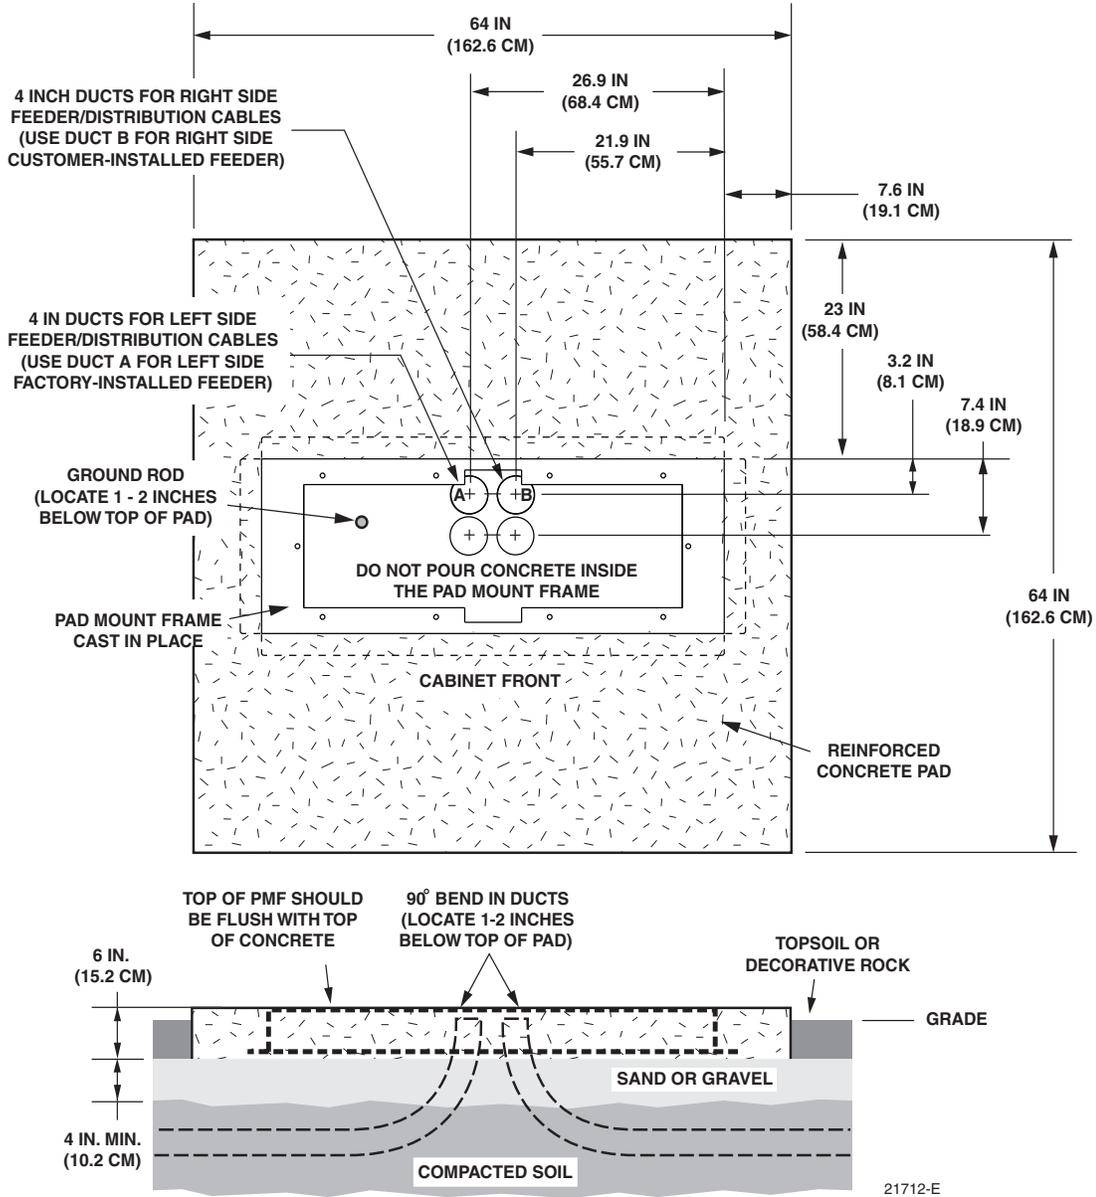

Figure 9. Constructing the Concrete Pad for the 864 Termination FDH 3000 Pedestal-Mount Cabinet
Prepare a base for the concrete pad that meets all local code requirements. The base must have a footing of 4 to 6 inches (10.2 to 15.2 cm) of sand or gravel (per local practice) on firmly compacted soil. Refer to the construction diagram in Figure 9 for details.
2. Locate the PMF as shown in the construction diagram (see Figure 9). When installed, the top surface of the PMF must be flush and level with the top of the concrete pad.
Install a grounding system (not provided) that meets all local electrical codes. Check local codes for grounding system installation, use of clamps, wire size, and any other grounding requirements. Typically, #6 AWG copper wire is used for the ground wire. If the grounding system includes a ground rod, install the rod (see Figure 9) within the PMF opening at the indicated point. When installed, the top of the rod should be located 1 to 2 inches (2.54 to 5.08 cm) **below** the top of the finished concrete pad. Leave sufficient slack in the grounding wire to allow it to be routed into the cabinet after the cabinet is mounted on the pad.